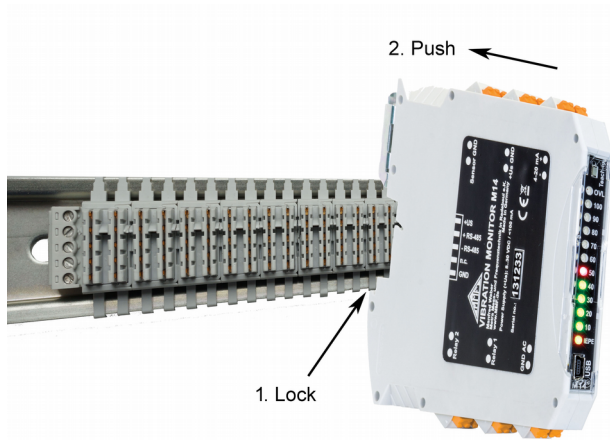
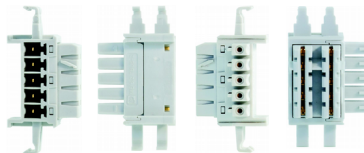

Figure 9: DIN rail attachment with bus connector
Figure 11: Bus connector M14-BUS
**DIN-Rail** With the bottom notch at the back of the instrument the module slides on to the DIN-rail and is locked in place (see figure 9). The image shows a DIN-rail with bus connectors for RS-485 and supply voltage. The bus connectors M14-BUS (Figure 11) are slotted into each other sideways and clipped on to the DIN-rail. When locked in place all the supply voltage connections and RS-485-interfaces of all the modules are connected with each other, which significantly simplifies the wiring. The terminal configuration of the bus connectors is shown in figure 2 on page 1.